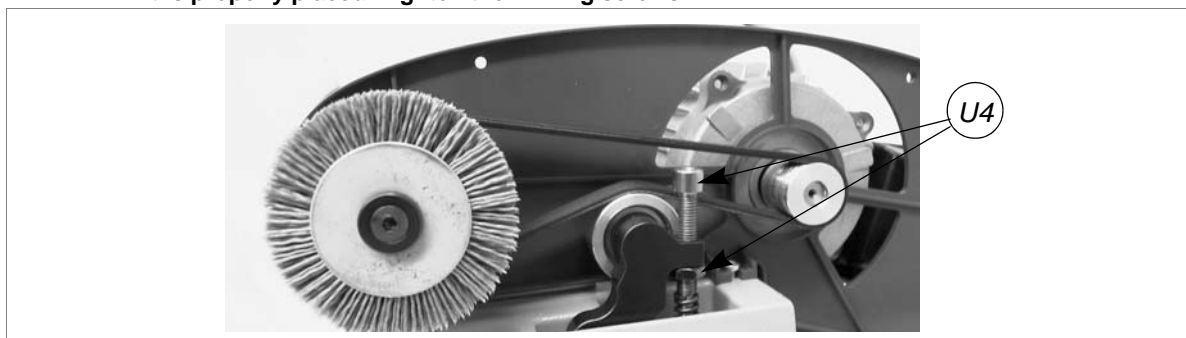

Fig. 39
- screw the screw/nut (U4) until the belt is properly tightened (fig.39).
- 15) Tighten the grub screw/nut (U4) until the belt is properly tightened (fig. 39, page 26).